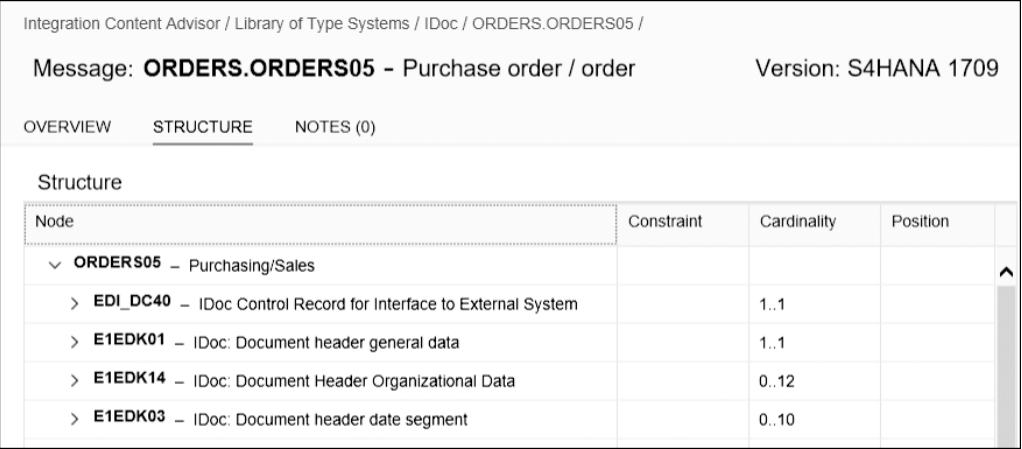

Figure 7.7 Structure of Message ORDERS.ORDER505
6. When you click the row containing the **Version** information for the selected message, the detailed structure of the message is shown in a new window. In Figure 7.7, you find the structure of the **ORDERS.ORDER505** message we’re going to use in the scenario we want to set up. You can use this view to explore the message’s structure.